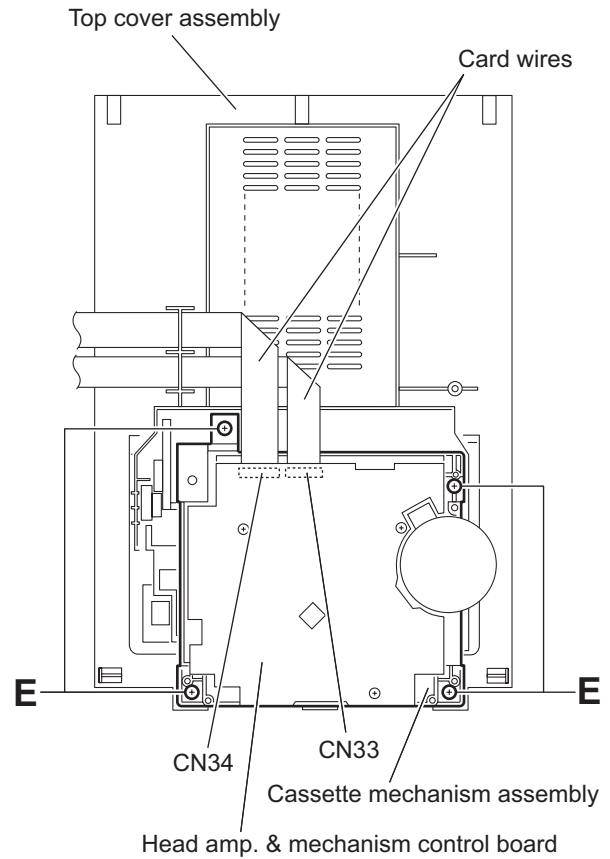

Fig.11
3.1.4 Removing the cassette mechanism assembly (See Fig.11)